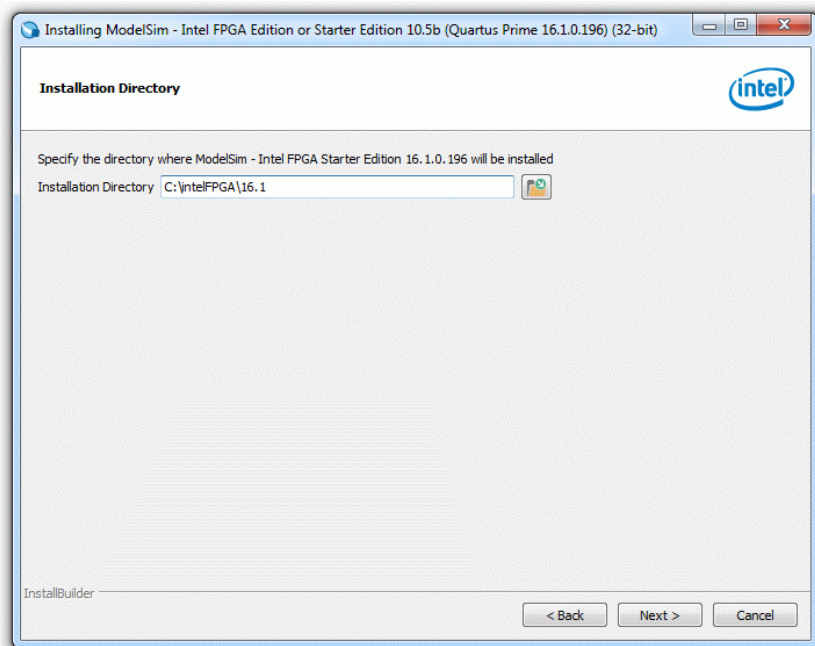

Figure 3: ModelSim installation (Part 3)
4. Choose the directory for the final installation and click “Next >” (Figure 3). **Do not use spaces or special characters for the name of the folder and/or path!**